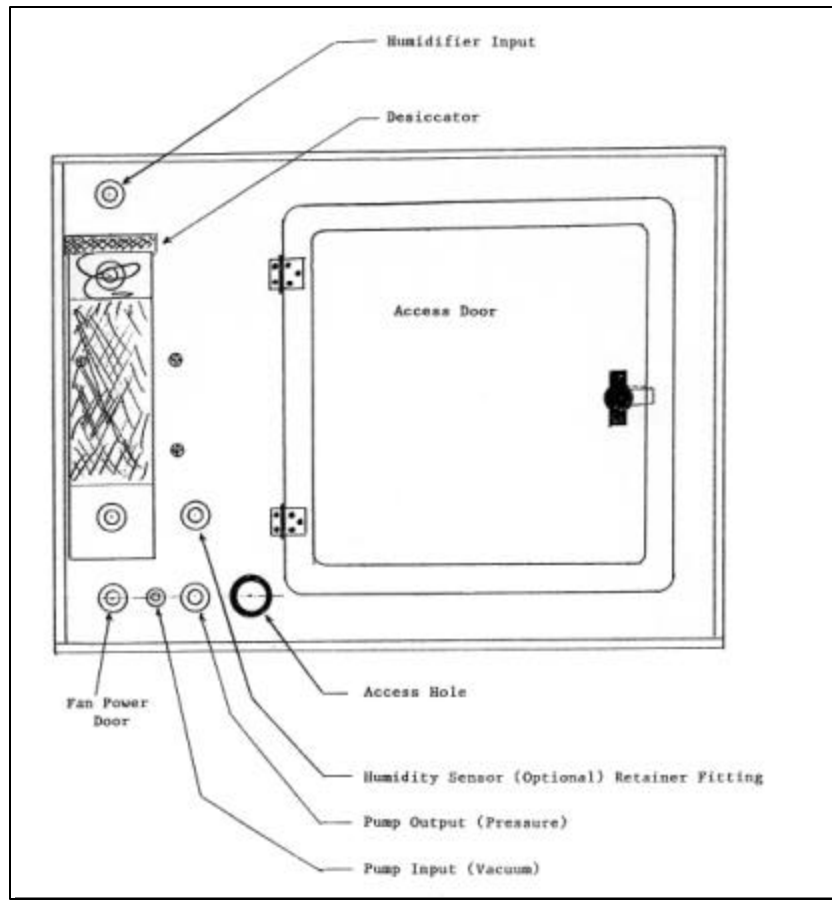

Figure 2.0-1
The Model 506A is a nine (9) cubic foot, airtight chamber fabricated from 0.25 inch clear and white acrylic and measures 36"W x 24"D x 18"H. Access to the chamber is through a 12" square opening. A heavy duty clear acrylic door, secured by a single half-turn latch, along with a compression resistant gasket ensures an airtight seal when the door is locked. A 1.25" diameter access hole is provided for passing cables and/or tubing through the chamber wall. A non-hardening putty is used to obtain an airtight seal. The access door, access hole, desiccator and all other fittings are located on the left-hand side of the chamber as shown in Figure 2.0-1.